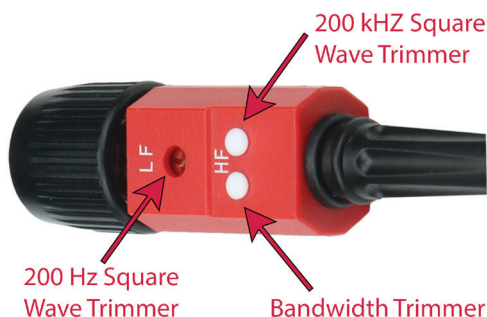
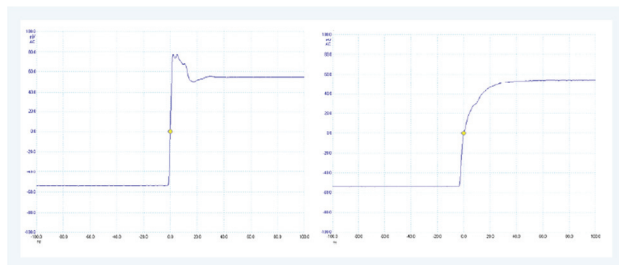

Figure 3: Frequency Compensation Trimmer
Figure 4: Over/Under Compensation
3. Turn the 200 Hz Trimmer (Figure 3) using the Trimmer Tool, making a flat topped square wave (Figure 4).
6. Turn the 200 kHz Trimmer for a flat topped square wave (Figures 3 & 5).
7. Turn the Bandwidth Trimmer for tuning the probe's bandwidth (Figure 3).
Figure 4 shows how over- and under-compensated pulse responses will look.